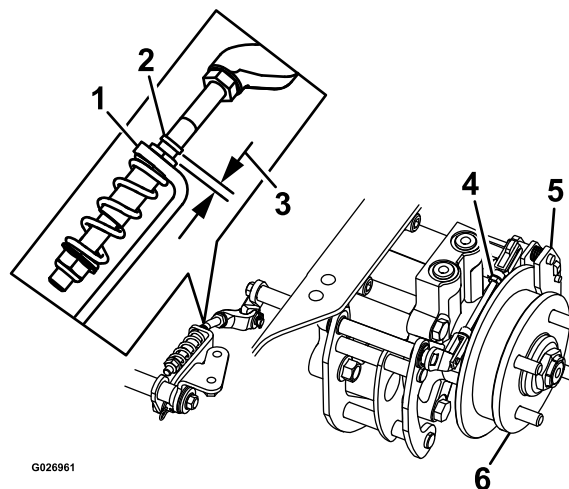

Figure 76
8. Check if there is a visible gap between the L-bracket and the linkage stop (Figure 76).